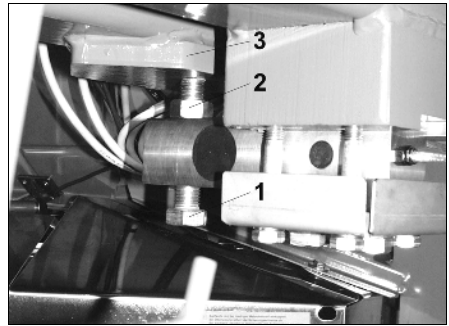

Fig. 57
You will find the micrometer gauge (Fig. 57/1) in the centre underneath the frame of the spreader in the weigh cell.
- Slacken counter nut (Fig. 57/2)
- Readjust micrometer gauge (Fig. 57/1).
- Retighten counter nut (Fig. 57/2).